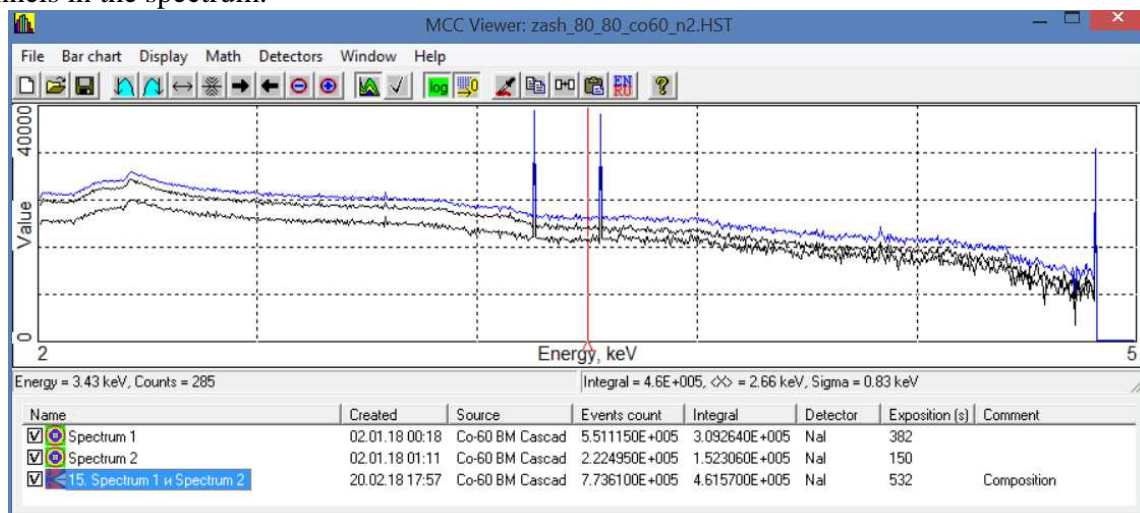

Figure 46. The result of summation of two spectra
button to the right of the **2nd** field. To select the type of operation (addition or subtraction), click the corresponding **Add** or **Subtract** button. If necessary the spectrum can be multiplied by constant, for that it is necessary to specify this value in the corresponding fields **Multiply by**. After clicking on the **OK** button, the composition spectrum appears at the end of the table (see Fig.46).
**Sum all checked** – performs a similar task, like **Composition**, but only for all spectra marked with a tick in the table (see Fig.46).